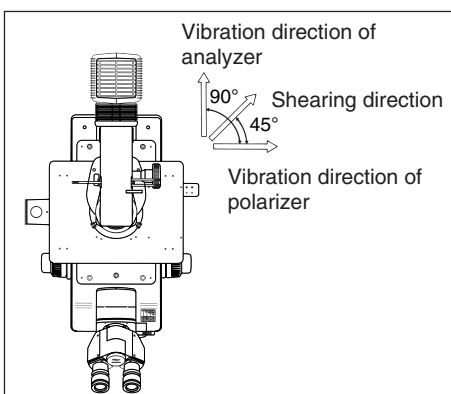

Figure 2-2
- Because contrast is obtained in the shearing direction (see Figure 2-2), adjust the orientation of the specimen until contrast is obtained in the desired direction.